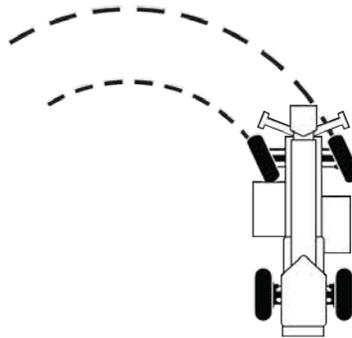

Figure 28 Front Steering
2. Front Steering. See Figure 28.